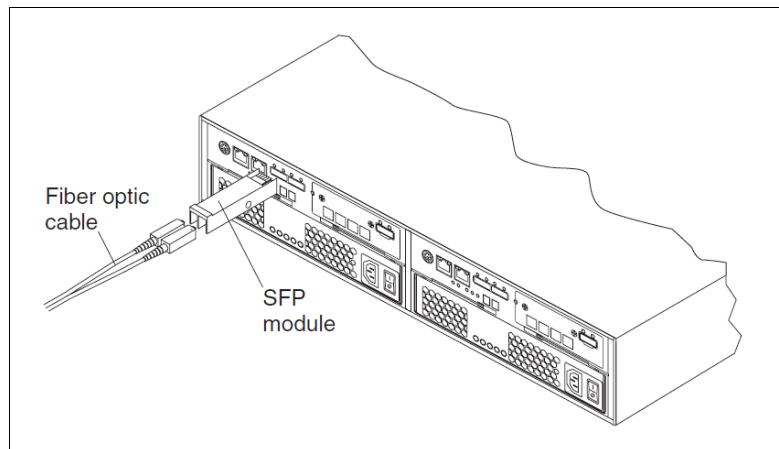

Figure 3-13 Installing an SFP module into the host port
4. Insert the SFP module into the host port until it clicks into place, as shown in Figure 3-13.